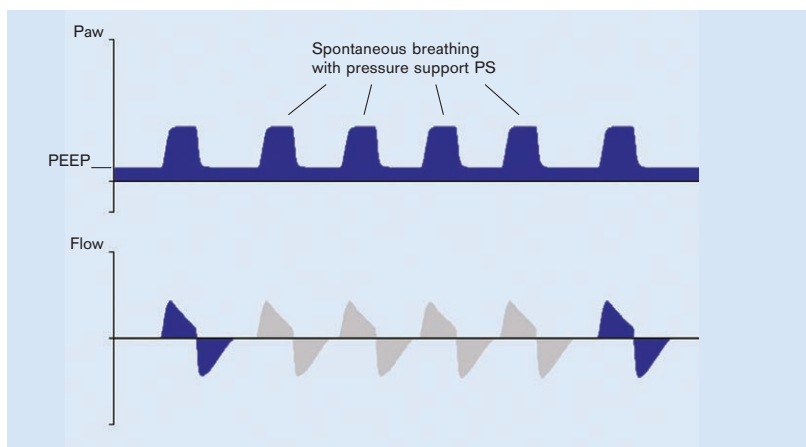

Figure 29: PC-PSV
- with guaranteed minimum frequency (backup frequency) (Figure 29)